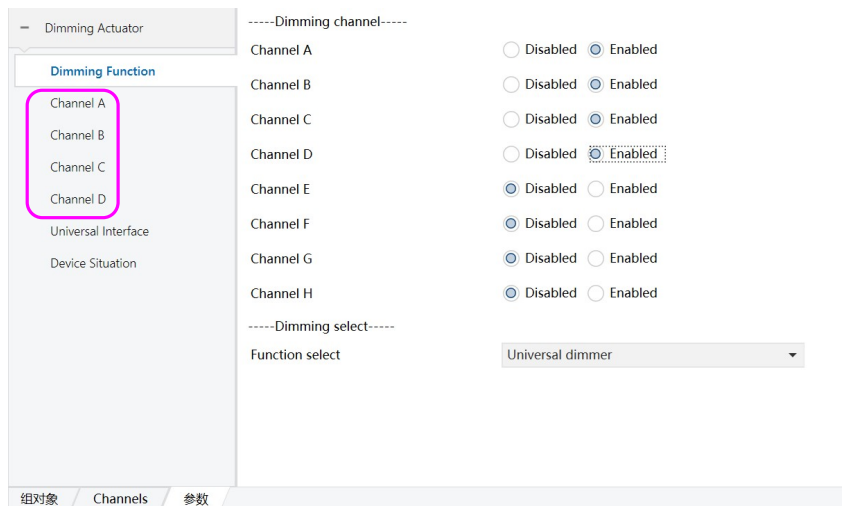

Figure 6.1.2
2) Select "Enable" for Channel X (8 channels for Channel A ~ Channel H, only need to open the required circuits, for example, 4 channels for dimming need to only enable Channel A ~ Channel D) After setting, the interface is shown in Figure 6.1.2, and 4 options in the red block as shown in figure.